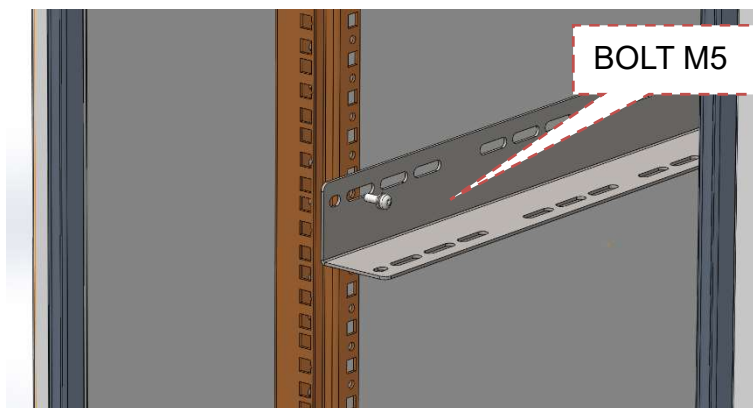

Figure 3-15
- Attention:** Please pay attention to mounting of bracket reference to Figure 3-15.